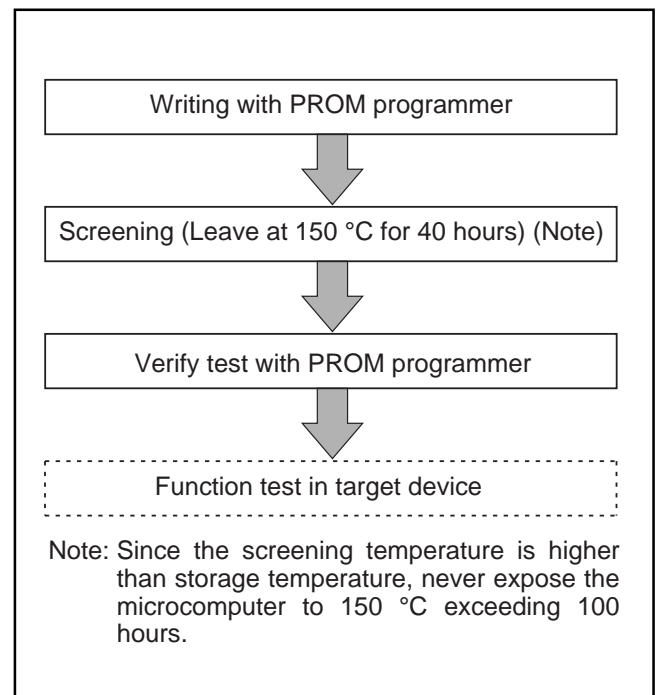

Fig. 37 Flow of writing and test of the product shipped in blank
- ① A high-voltage is used for writing. Take care that overvoltage is not applied. Take care especially at turning on the power.
- ② For the One Time PROM version Mitsubishi Electric corp. does not perform PROM writing test and screening in the assembly process and following processes. In order to improve reliability after writing, performing writing and test according to the flow shown in Figure 37 before using is recommended.